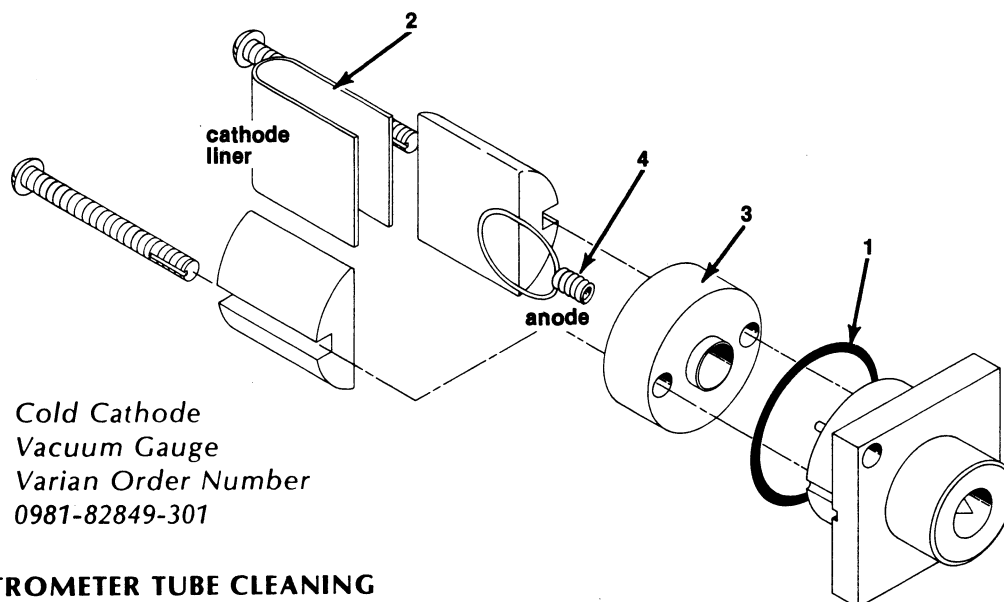

Figure 6-30. Cold Cathode Vacuum Gauge
3. Slip out the cathode liner. If it is dirty, clean it with emery cloth, or replace it. To dismantle the gauge, which is rarely necessary, see Figure 6-30. If anode must be removed, twist it **to loosen** while pulling to prevent cracking ceramic feedthrough. This will **appear** to be screwing loop onto pin.